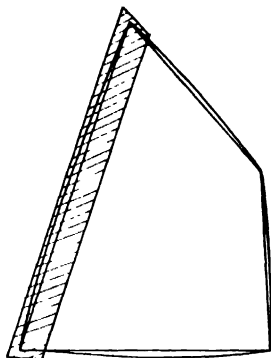

FIG. 24. Laying the first cloth of the gaff mainsail. The shaded portion indicates the first cloth.
*Operation 2* Laying the cloth. First draw a line parallel to the straight line of the leech, outside it, and 2 in. away (this measurement is for small sails and should be scaled up in proportion for larger ones). Lay the first cloth with the selvedge edge along this line, covering the curved line of the leech, starting at the clew (overlapping the curved line of the foot by  $3\frac{1}{2}$  in.). Cut the cloth from the roll parallel with the head, leaving  $3\frac{1}{2}$  in. overlapping the curved line of the head (Fig. 24). Mark in the seam line along the inner edge of the cloth, this line gradually moving further from the edge of the cloth at each end to form the broad-seams.